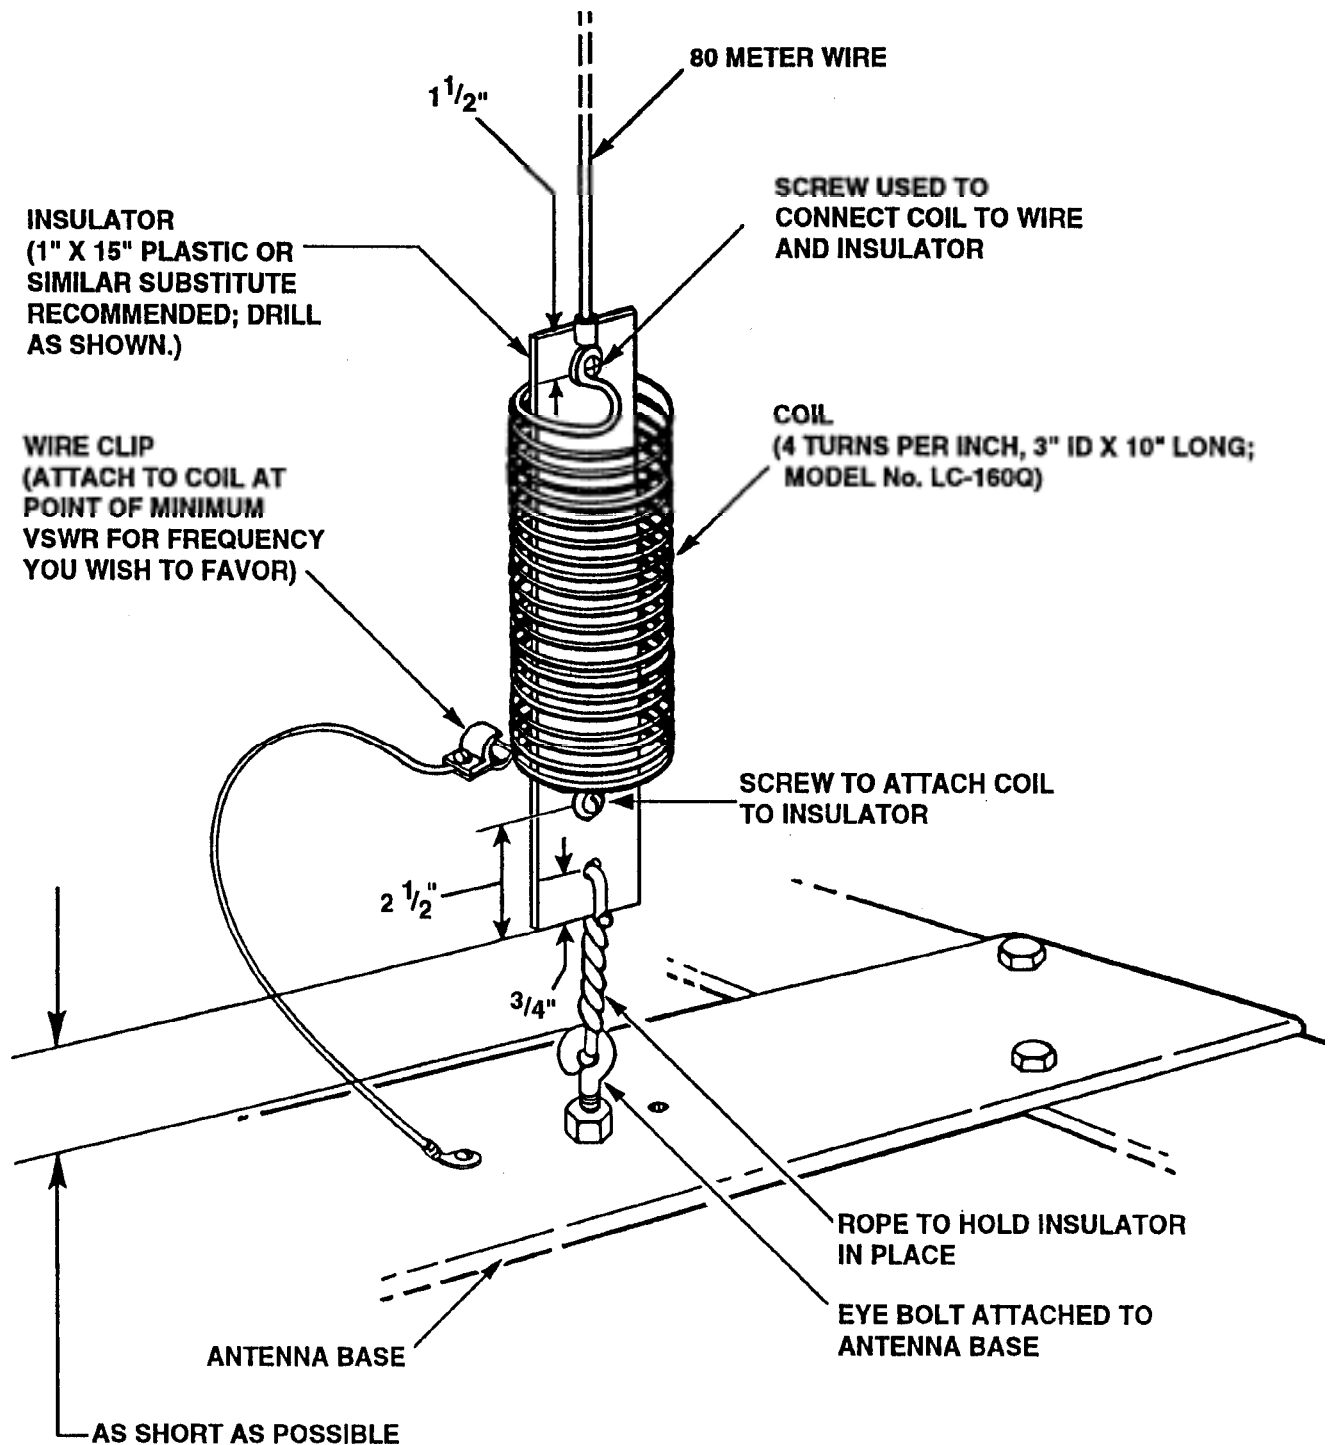

Figure 1
1. Assemble LC160Q coil as shown in Figure 1.
3. Hook up rope to lower insulator hole as shown in Figure 1.